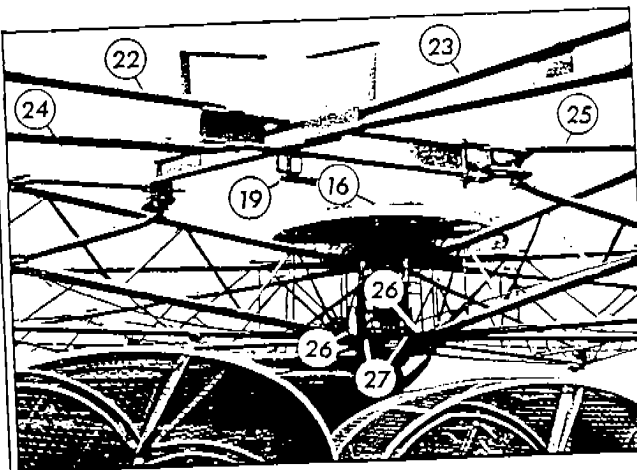

FIG. 4
- (10) To fold out the sweeps, you must first fold down the sweep transporting support (17) Fig. 3. To do this, remove the 3/4" pin, located on the column just above the left rear bunker support. Place the pipe lever on angled shaft, located at end of sweep support, and pull up. CAUTION: BE SURE SOMEONE IS HOLDING ON TO THE SWEEPS AS THEY MIGHT SWING. Be sure sweep support folds down to column. You now remove the come-a-long (18) Fig. 3, which is hooked to the bottom side of the sweeps. CAUTION: THE OVER-CENTER CAR BUNKER LOCK (13) Fig. 3 MUST BE IN LOCKED POSITION BEFORE FOLDING OUT THE SWEEPS. Swing the right and left outer sweeps out at the same time, being careful that the weight is equal on both sides at all times. Pull the sweeps around until the wheel is formed. Located at the center of each cross brace is a spring loaded pin (19) Fig. 4 with a lever. Line up the holes in the cross braces until the spring loaded pin can be inserted by folding the lever sideways. To assemble the master cross brace, you must first remove the rim safety cable (20) Fig. 2 from the transporting position and hook it into the eye (21) Fig. 1 at the end of the outer sweep. DO NOT SECURE AS IT WILL STRETCH THE CABLE. Now take the two long outer cross braces (22 & 23) Fig. 4 and place narrow one (23) through the wide one (22) until the pin holes line up. DO NOT SECURE SPRING LOADED PIN. Next, take the two short inner braces (24 & 25) Fig. 4 which have over-center locks on them and pin to each of the long outer braces. By using the pipe lever, pry the locks over center and insert safety pins. Remove the two cables (26) Fig. 4 attached to the inner end of outer sweeps, cross them and secure to the two hooks (27) Fig. 4 protruding from bottom center hub plate. The rim safety cable can now be secured.